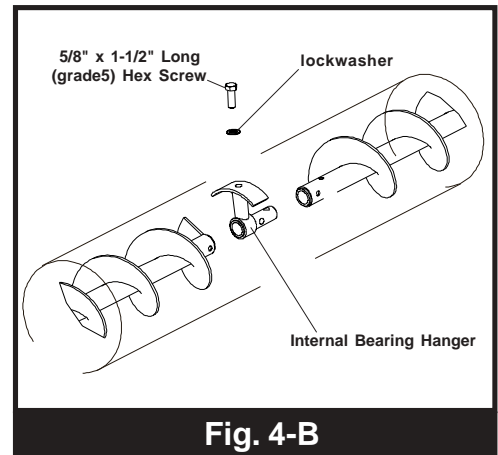

Fig. 4-B
- B. The internal bearing hanger should be placed over the end of the flight connecting stub on the middle auger section. Next, slide the flight section out of the head or upper middle auger housing section. Connect the middle and head flight sections together. Use two (2) 1/2" x 3-1/2" long (grade 8) hex head capscrews screws and stover type locknuts. (See Fig. 4-A.)
2. Grab the internal bearing hanger stem through the bearing access area and rotate the bearing until it lines up with the 3/4" hole on the top of the auger housing. (See Fig. 4-B)